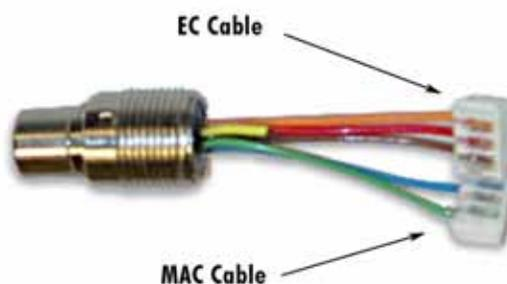

Figure 75 EC/MAC cable connections
- 1 Connect the 6-pin (MAC) end of the EC/MAC Cable (Figure 75) to the 6-pin connector on the sample plate. Connect the other end of the cable to the EC/MAC socket on the bottom of the microscope stand.